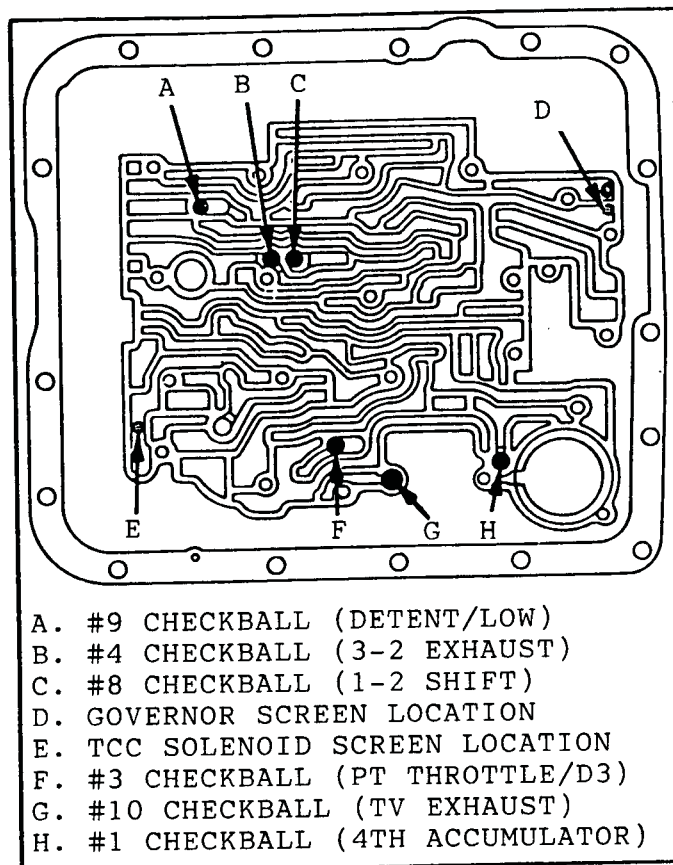

Figure 45
15. The larger checkball in the case is the TV exhaust ball, and we recommend that you omit this ball. (Figure 45)
16. Remove and inspect the converter clutch and the governor screens (Figure 45).